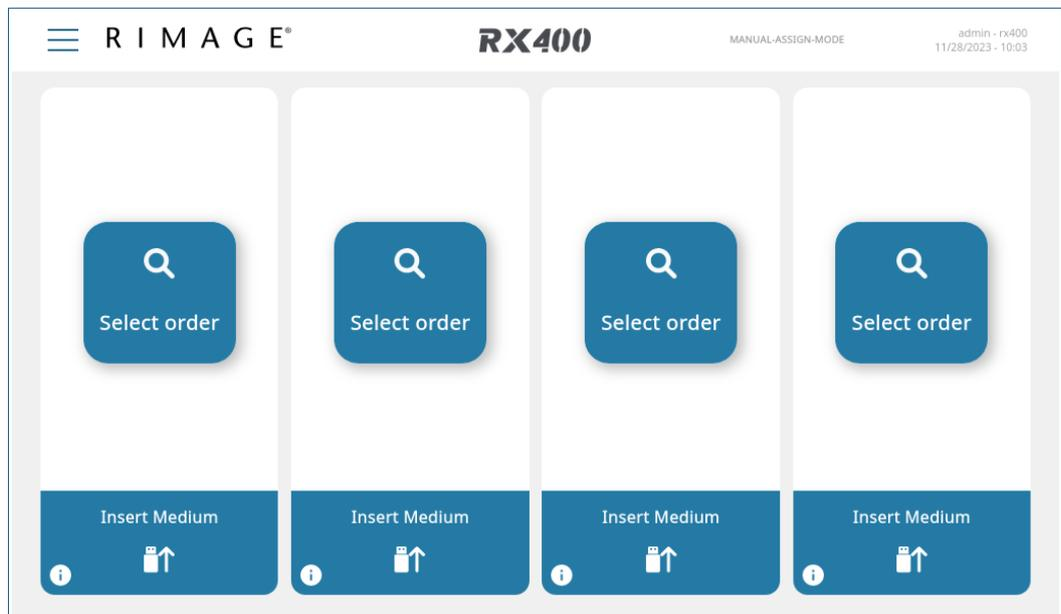
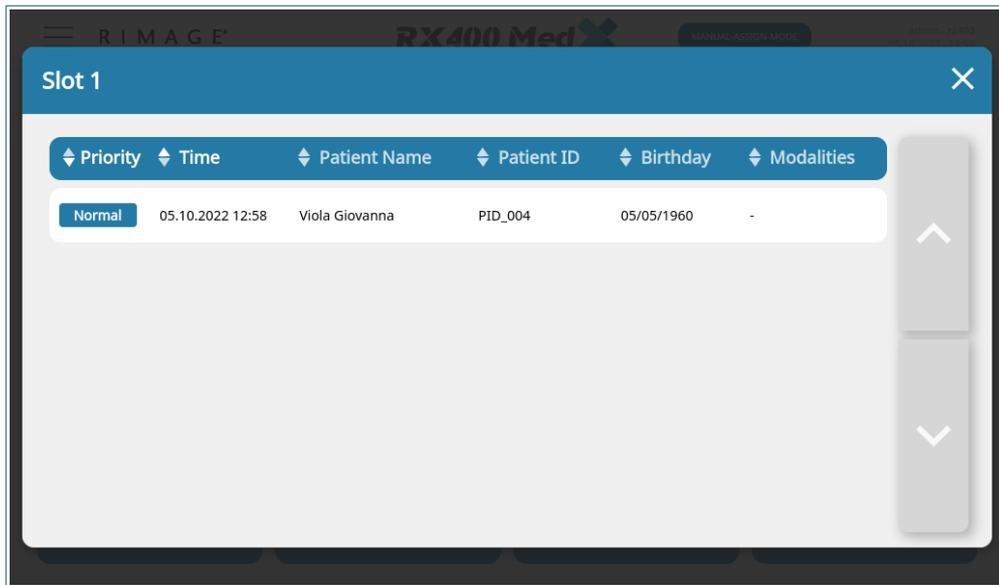

Figure 20: Home screen with running tickets
Figure 28: Job Select List
In Manual Assign Mode, when at least one ticket is available and in a running state, the *Select Order* button displays on the home screen (see figure 20). Tap this button to open the *Job Select* list (see Figure 28).
2. The *Job Select List* appears. (Figure 28, page 31).